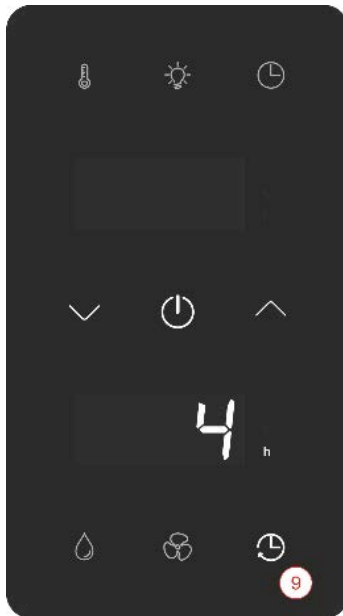

Fig. 26 Setting the operating time
1. Press the "Operating time button" (Fig. 26/Item 9) to restart the control.
4. Press the "Operating time button" (Fig. 26/Item 9) again to save the selected value and restart the sauna.